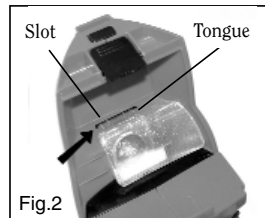

Fig.2
6) Pull the water filter out carefully but firmly as illustrated in Fig. 1 until you release the tongue (located on the top part of the water filter) from the designated slot as illustrated in Fig. 2. You will here a click sound, Don't pull the water filter all the way out, Just enough to release the tongue from the slot.